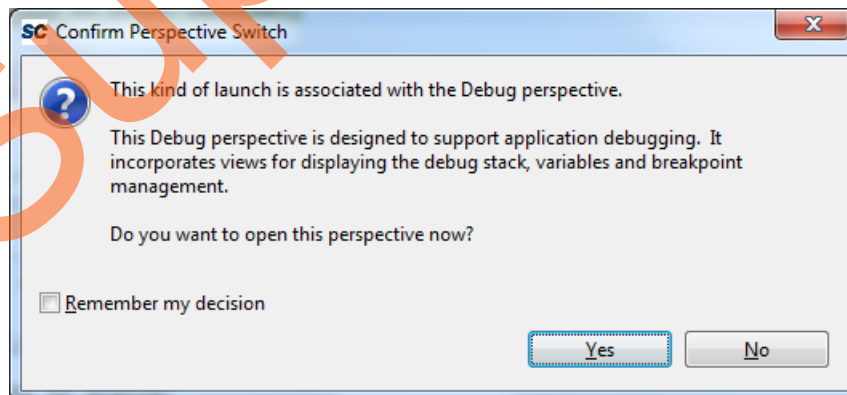

Figure 39 • Confirm Perspective Switch
12. Click **Yes** when prompted for the **Confirm Perspective Switch**, as shown in Figure 39. This displays the debug view mode.